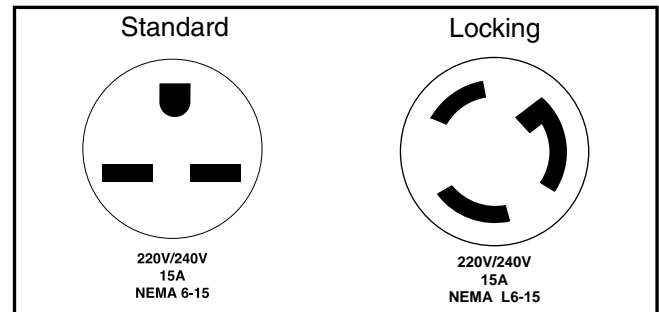

Figure 2. Two typical 220V outlet configurations.
2. The plug at the end of the power cord needs to be cut off and replaced with a type similar to those pictured in **Figure 2**.